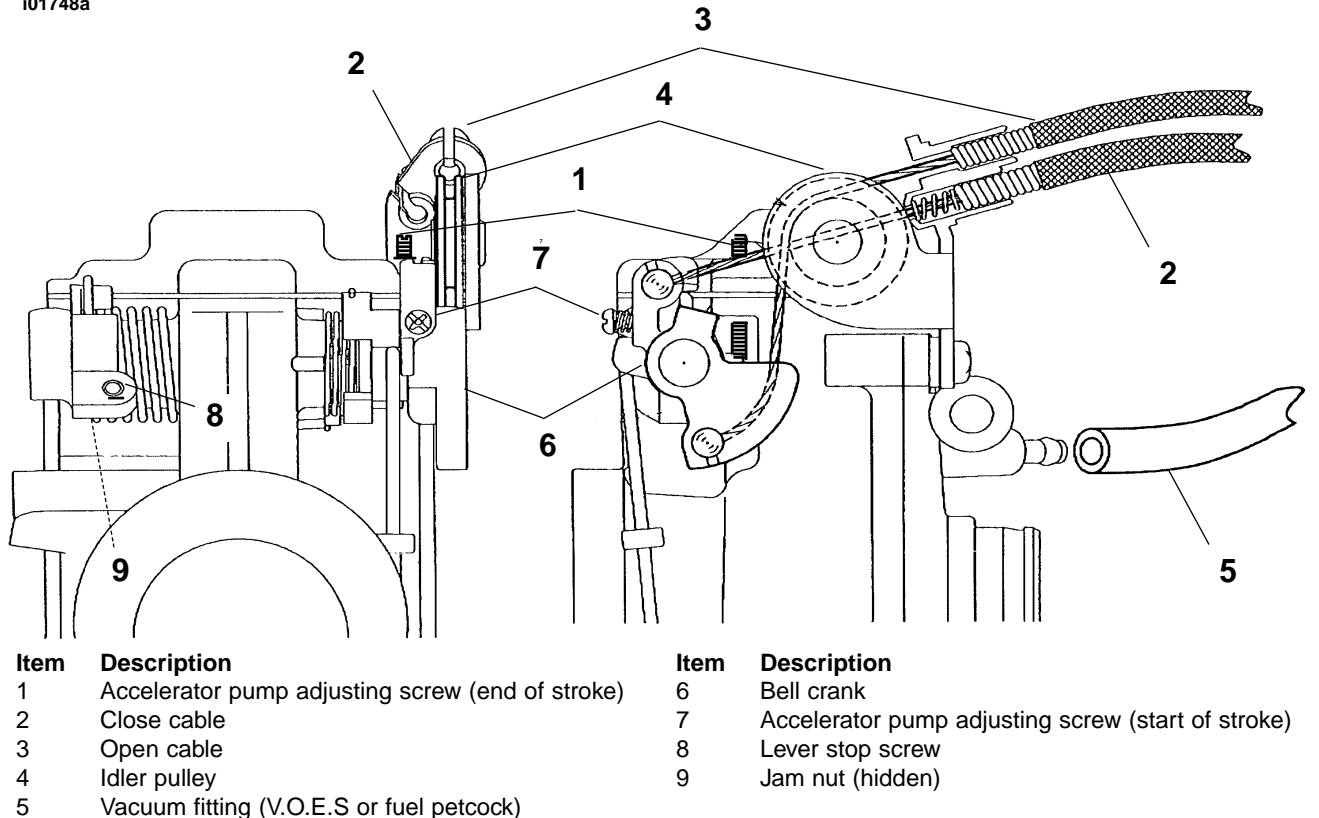

Figure 4. Front and Side View of Throttle Cable Routing (including VOES)
3. See Figure 4. Slip the VOES/fuel petcock vacuum hose on the carburetor fitting below idle cable bracket.
See Figure 4. Refer to the applicable Harley-Davidson Service Manual and adjust throttle cables following the instructions given. Adjust throttle cable so throttle valve (slide) opens fully. Lever stop screw should touch carb body at wide open throttle. To adjust lever stop screw, loosen jam nut and turn screw in (clockwise) or out (counterclockwise), respectively.